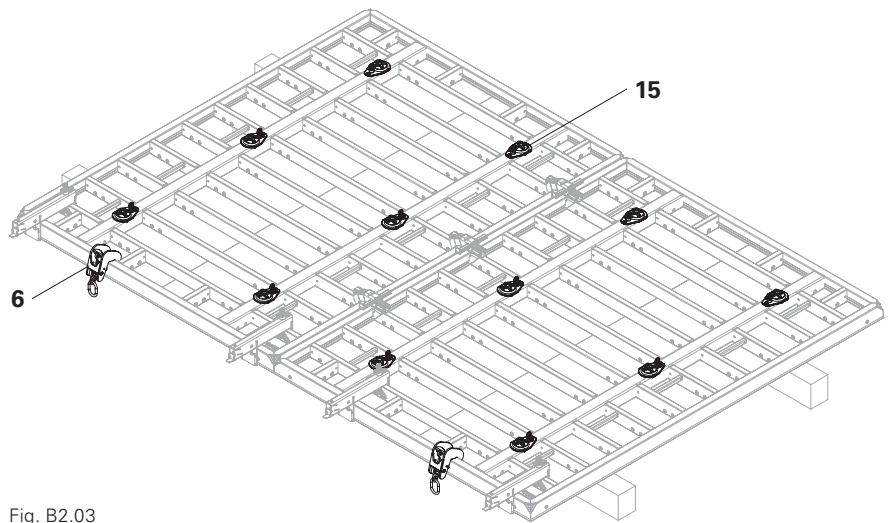

Fig. B2.03
6. Fit the Swivel Nuts MX15 (**15**). (Fig. B2.03)